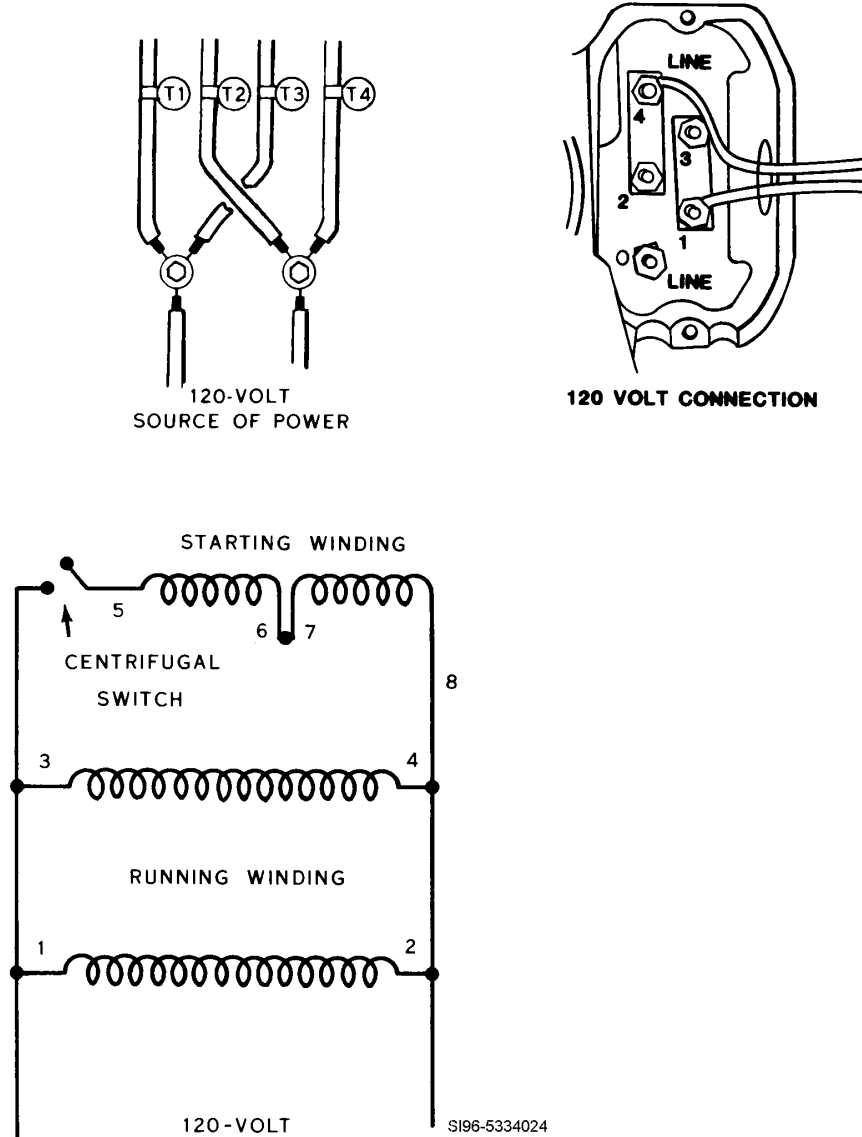

Figure 22, Low-Voltage Connections
- Figure 22 shows how to connect the motor for 120-volt operation.